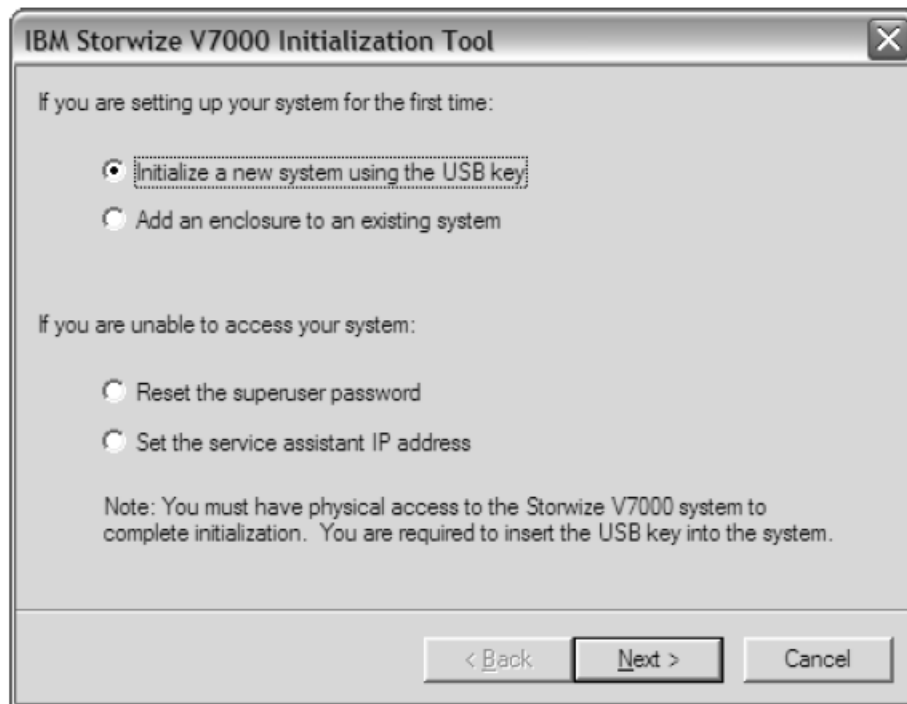

Figure 2-1 IBM Storwize V7000 initialization tool
2. In the IBM Storwize V7000 Initialization Tool window (see Figure 2-1), select **Initialize a new system using the USB key** and click **Next**.